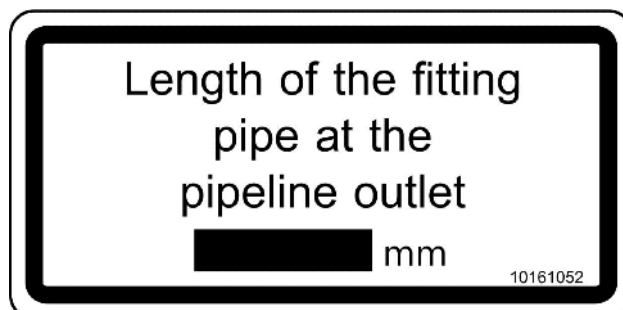

Fig.: 9
- The length of the pipe installed in the pumping line outlet is specified on a plate at the machine (Fig.: 9).